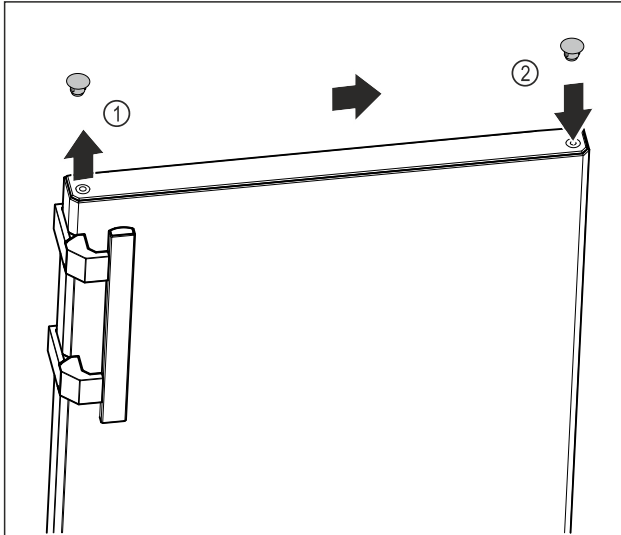

Fig. 10
- Carefully lift the cover plug on the top of the door Fig. 10 (1) with a slotted screwdriver.
- Insert the cover plug on the opposite side. Fig. 10 (2)